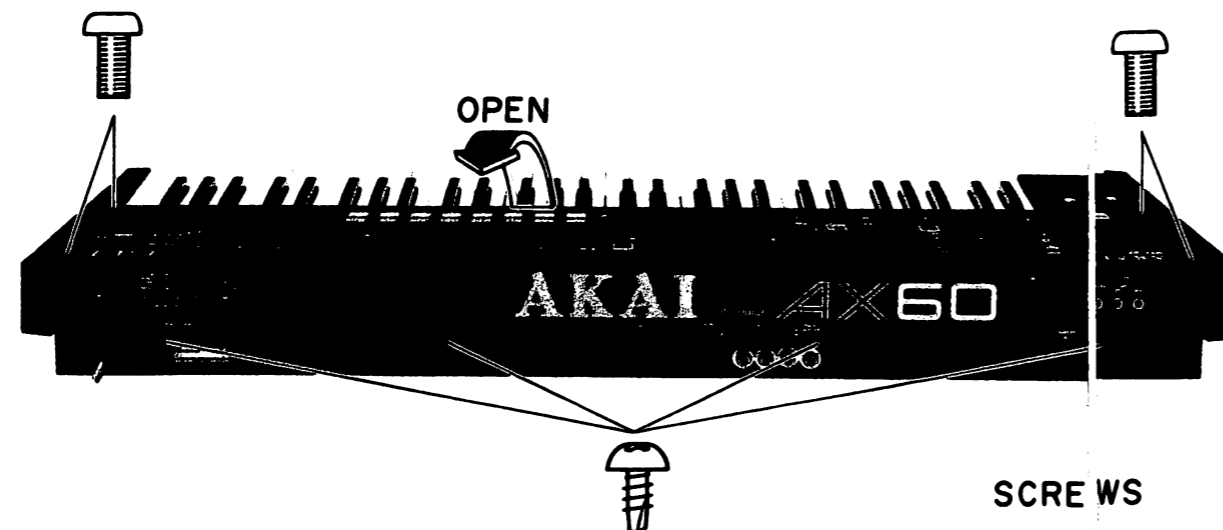
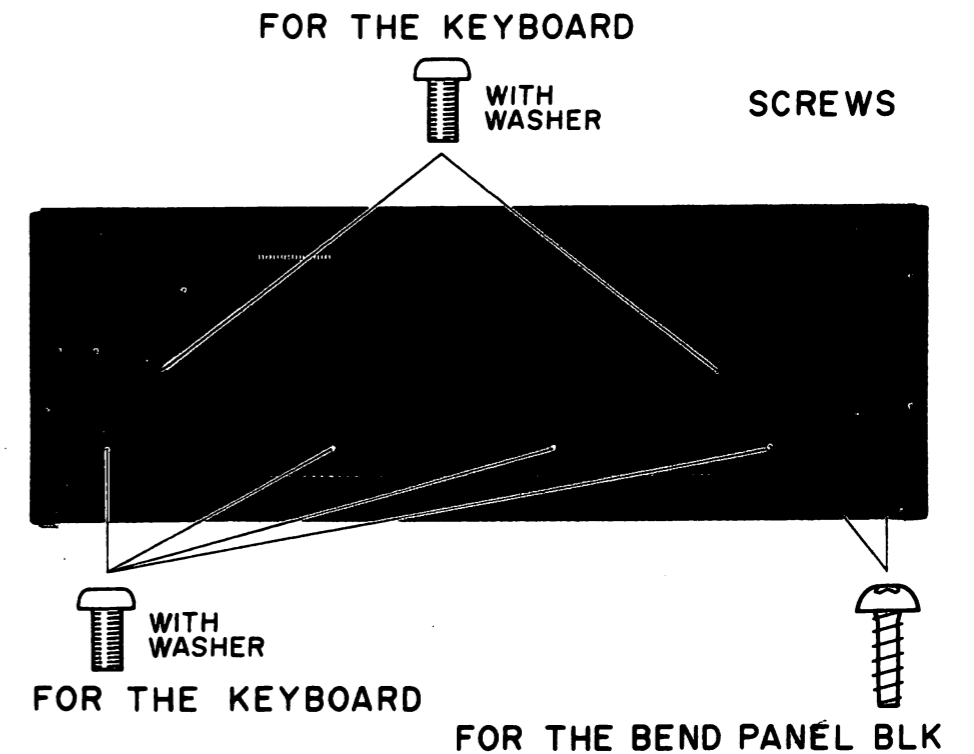
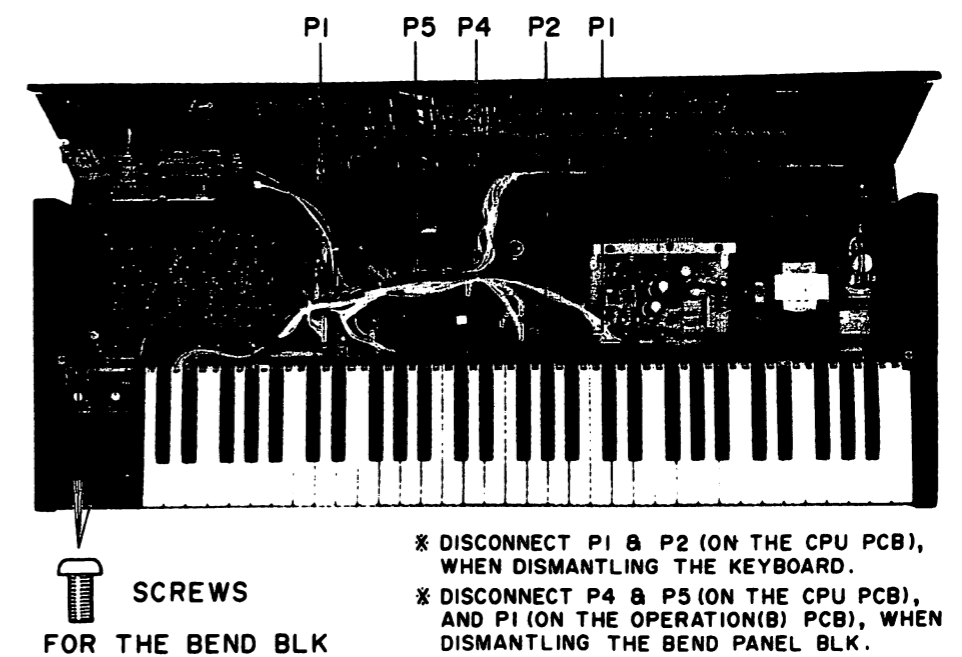

Fig. 2-1
Fig. 2-2
Fig. 2-3
### 2-1. HOW TO OPEN THE FRONT PANEL (Refer to Fig. 2-1)
1) Remove 8 screws as shown Fig. 2-1, and open the Front Panel as shown Fig. 2-3.
### 2-2. HOW TO DISMANTLE THE KEYBOARD (Refer to Fig. 2-2 and Fig. 2-3)
### 2-3. HOW TO DISMANTLE THE BEND PANEL BLOCK (Refer to Fig. 2-2 and Fig. 2-3)
1) Remove 6 screws as shown Fig. 2-2 and Fig. 2-3, and disconnect the connectors P4, P5 on the CPU PC Board and P1 on the OPERATION (B) PC Board.